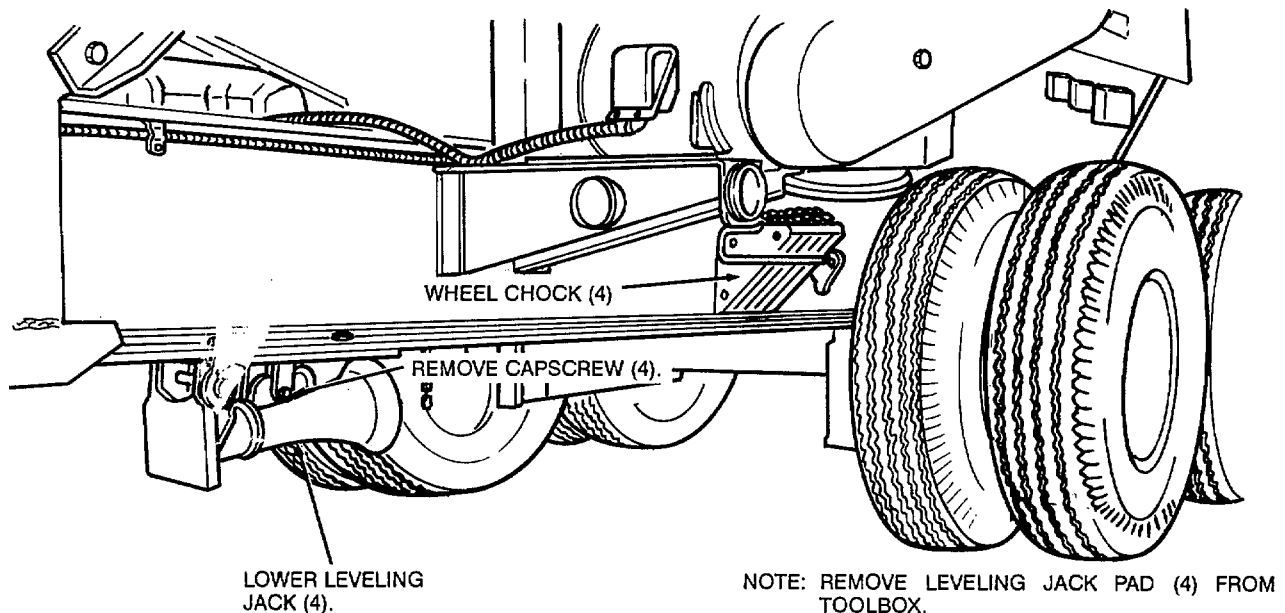
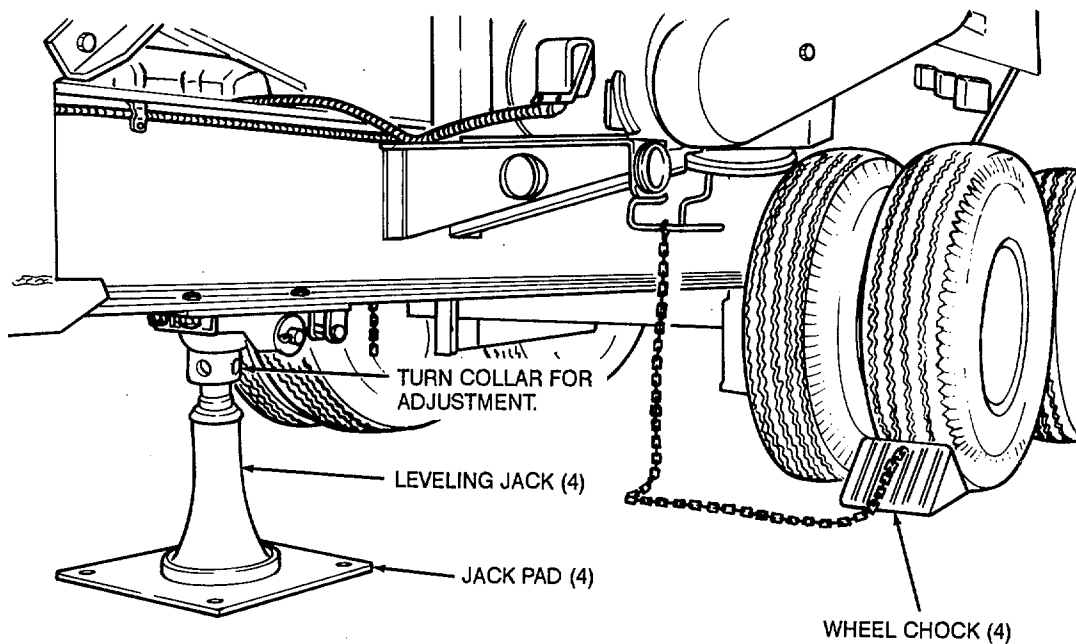

Figure 4. Leveling jacks and wheel chocks, stowed position.
Figure 5. Leveling jacks and wheel chocks installed position.
- Remove the wheel chocks (fig. 4) from their brackets on the main frame above the rear wheels and securely block the rear wheels (fig. 5).
c. The roll crusher is equipped with four mounted screw-type leveling jacks. Lower the leveling jacks (fig. 4) and position the jacks into the jack pad recess (fig. 4). If the ground is soft or provides a poor bearing surface, place timbers or other suitable supports under the jack pads.
- j.* Remove and stow the landing jacks and wheel chocks in reverse of the instructions on figure 4. Stow the landing jack pads in the toolbox (fig. 1).
- m. Attach suitable towing vehicle to the roll crusher, remove the wheel chock and stow them in the bracket on the frame (fig. 4).